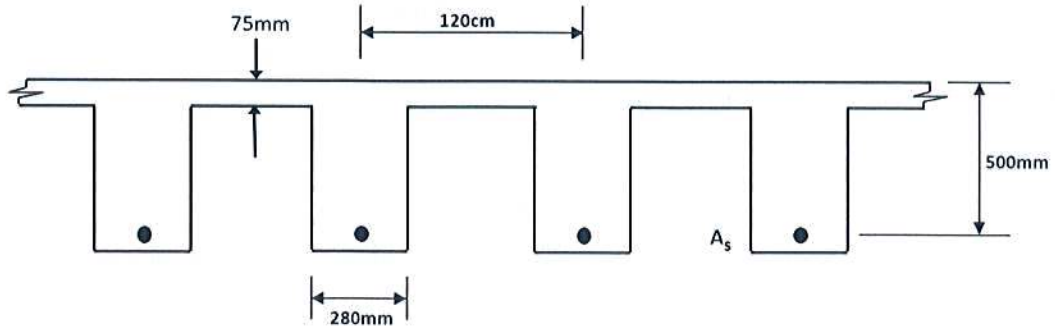

Figure:2
4. A floor system, shown in Figure 2 consists of a 125mm concrete slab supported by continuous T beams of 8m span (simply supported). Cross section of the beams 280mm x 500mm as shown in Figure 2. Calculate the required tensile steel area of beam at mid-span to resist a factored moment of 950 kN-m. (15)